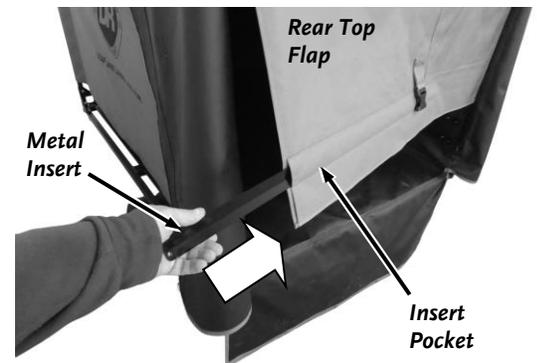

Figure 84
3. Locate the metal insert in the top door flap and remove it from its sleeve (Figure 84).